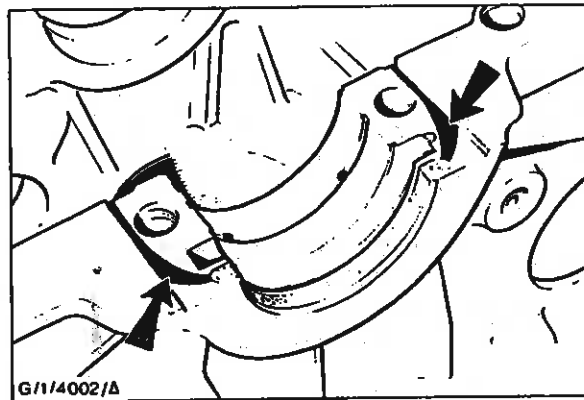

Fig. 49 - Crankshaft Rear Main Bearing Housing (Apply Sealer in areas shown)
20. Ensure that the rear main bearing cap and block mating faces are clean and dry, and apply specified sealer to the cylinder block at the areas shown in Fig. 49.